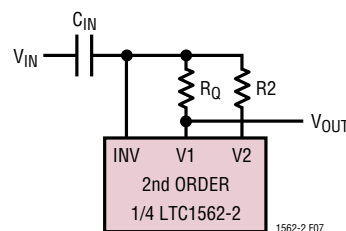
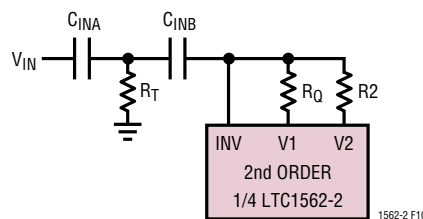

Figure 7. Basic Highpass Configuration
Figure 10. Highpass “T” Input Circuit
When Z_{IN} of Figure 3 is a capacitor of value C_{IN} , a highpass response appears at the V1 output (Figure 7).
- Highpass response (capacitor input, V1 output, Figure 7) with $f_0 > 200\text{kHz}$
A method similar to the preceding technique adds an “extra” highpass pole to any capacitor-input application (such as the bandpass of Figure 6b or the highpass of Figure 7). This method splits the input capacitance C_{IN} into two series parts C_{INA} and C_{INB} , with a resistor R_T to ground between them (Figure 10). This adds an extra 1st order highpass corner with a zero at DC and a pole at the frequency: